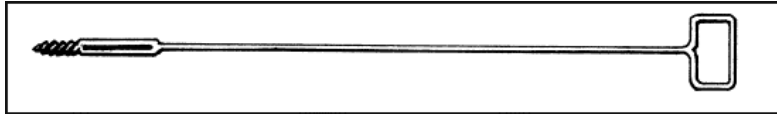

Figure A-5. Filler block retriever.
c. The filler block retriever (Figure A-5) is used to remove the filler block from the 4.2-inch mortar. It is a steel rod fitted with a handle on one end. The other end